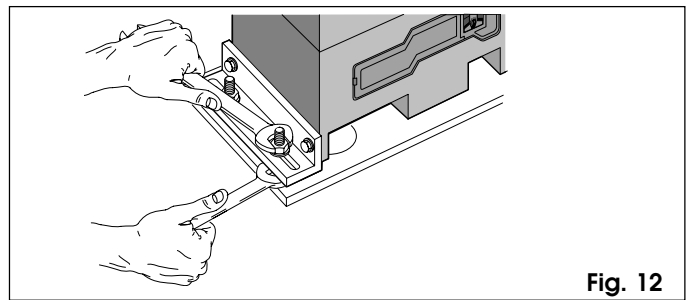

Fig. 12
- 5) Secure the gearmotor to the foundation plate, tightening the nuts as shown in Fig. 12.